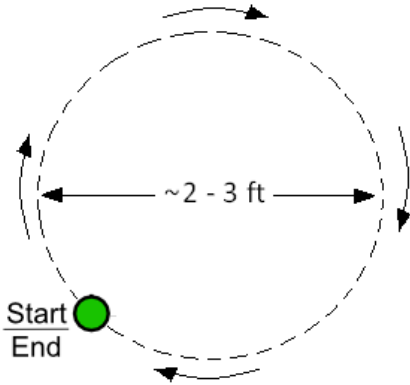

Figure 2: Circle Robot Motion
1. Write a "Circle" program to move the robot in a circle with a diameter between 2 and 3 feet (see Figure 2).